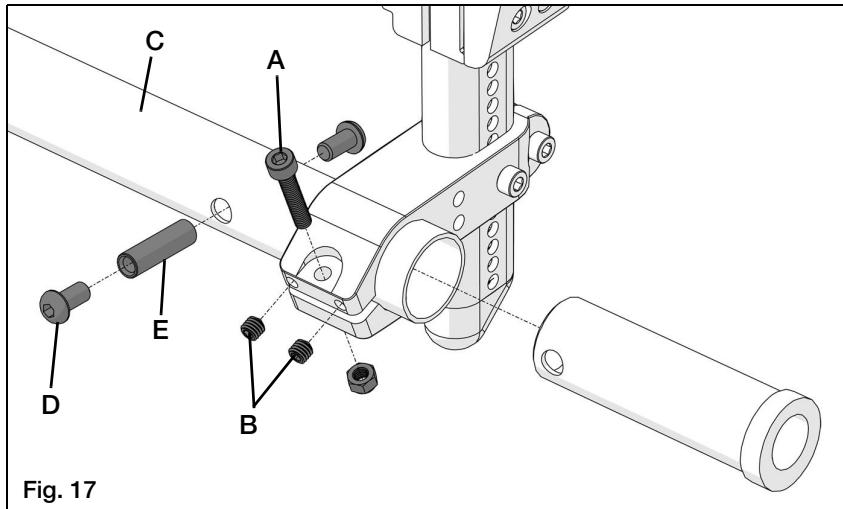

Fig. 17
5. Press threaded barrel (Fig. 17:E) into through holes in camber tube.
6. Insert 6mm screw (Fig. 17:D) using two Allen wrenches into threaded barrel and tighten.